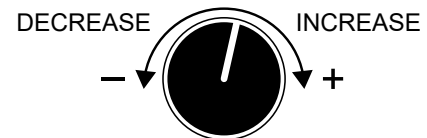

Figure 28. Voltage Regulator
3. Turn the voltage regulator (Figure 28) clockwise to increase voltage output, and turn counterclockwise to decrease voltage output. Use the voltage regulator whenever fine tuning of the output voltage is required.
2. Adjust voltage regulator (Figure 28) for an output of 208V to obtain 120V at the UVWO terminals.